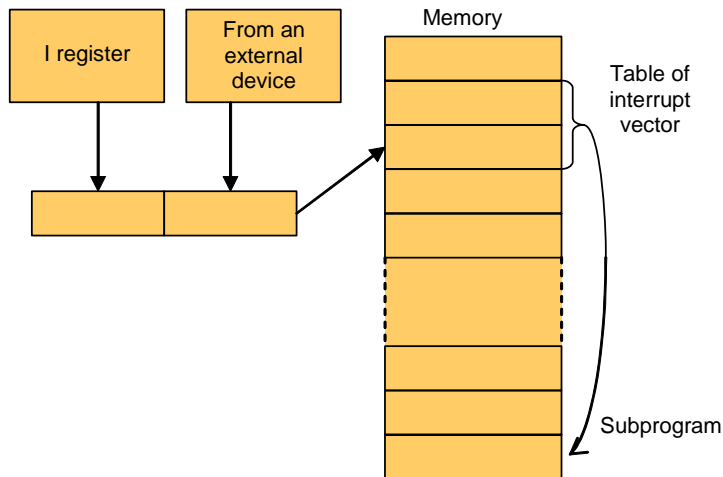

Figure 9. Call interrupt routine in mode 2.
MODE 2 – This is the most flexible interrupt mode. In this mode, during the interrupt cycle, the processor reads a byte of data from the data bus and treats it not as an instruction (like in MODE 0), but as the low order byte of the address bus. The high order byte of the address bus is loaded from the processor's Interrupt register (I). This address points to the location in memory where the first instruction of the interrupt service routine is stored (see Figure 9).